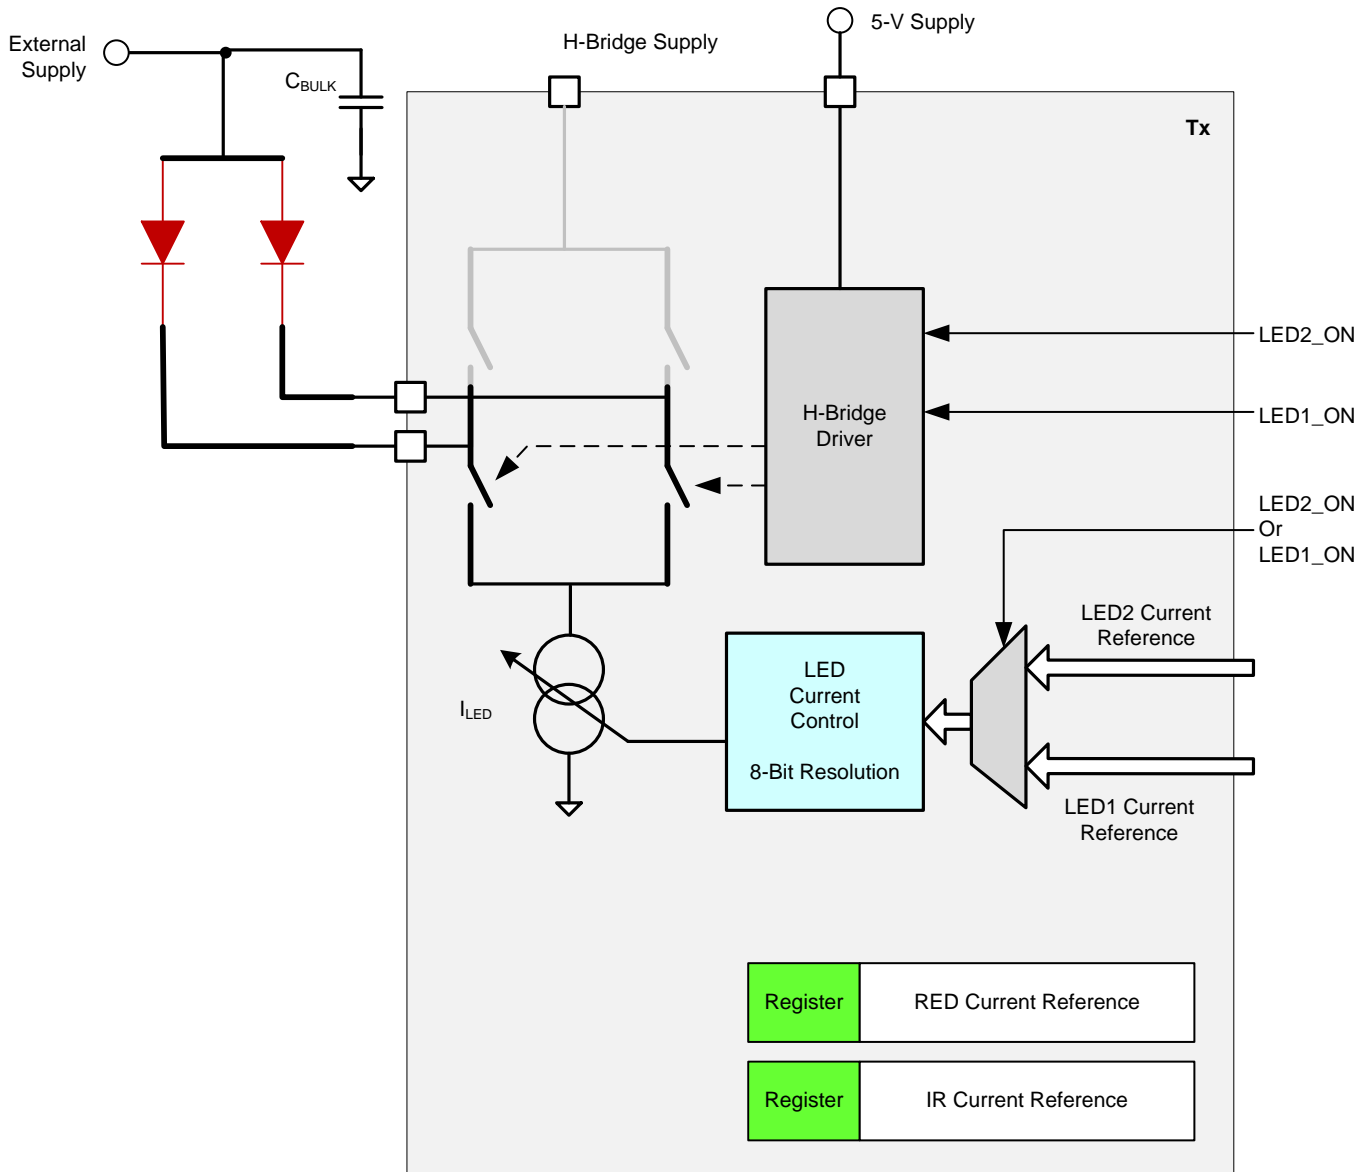

Figure 45. Transmit: Push-Pull LED Drive for Common Anode LED Configuration
- A push-pull drive for a three-terminal LED package; see Figure 45. The minimum external supply voltage = $2.0\text{ V} +$ (maximum voltage drop across the LED). This value is the nominal value and depends on the registry LED current settings (refer to the LED_RANGE[1:0] bits in the LEDCNTRL register).